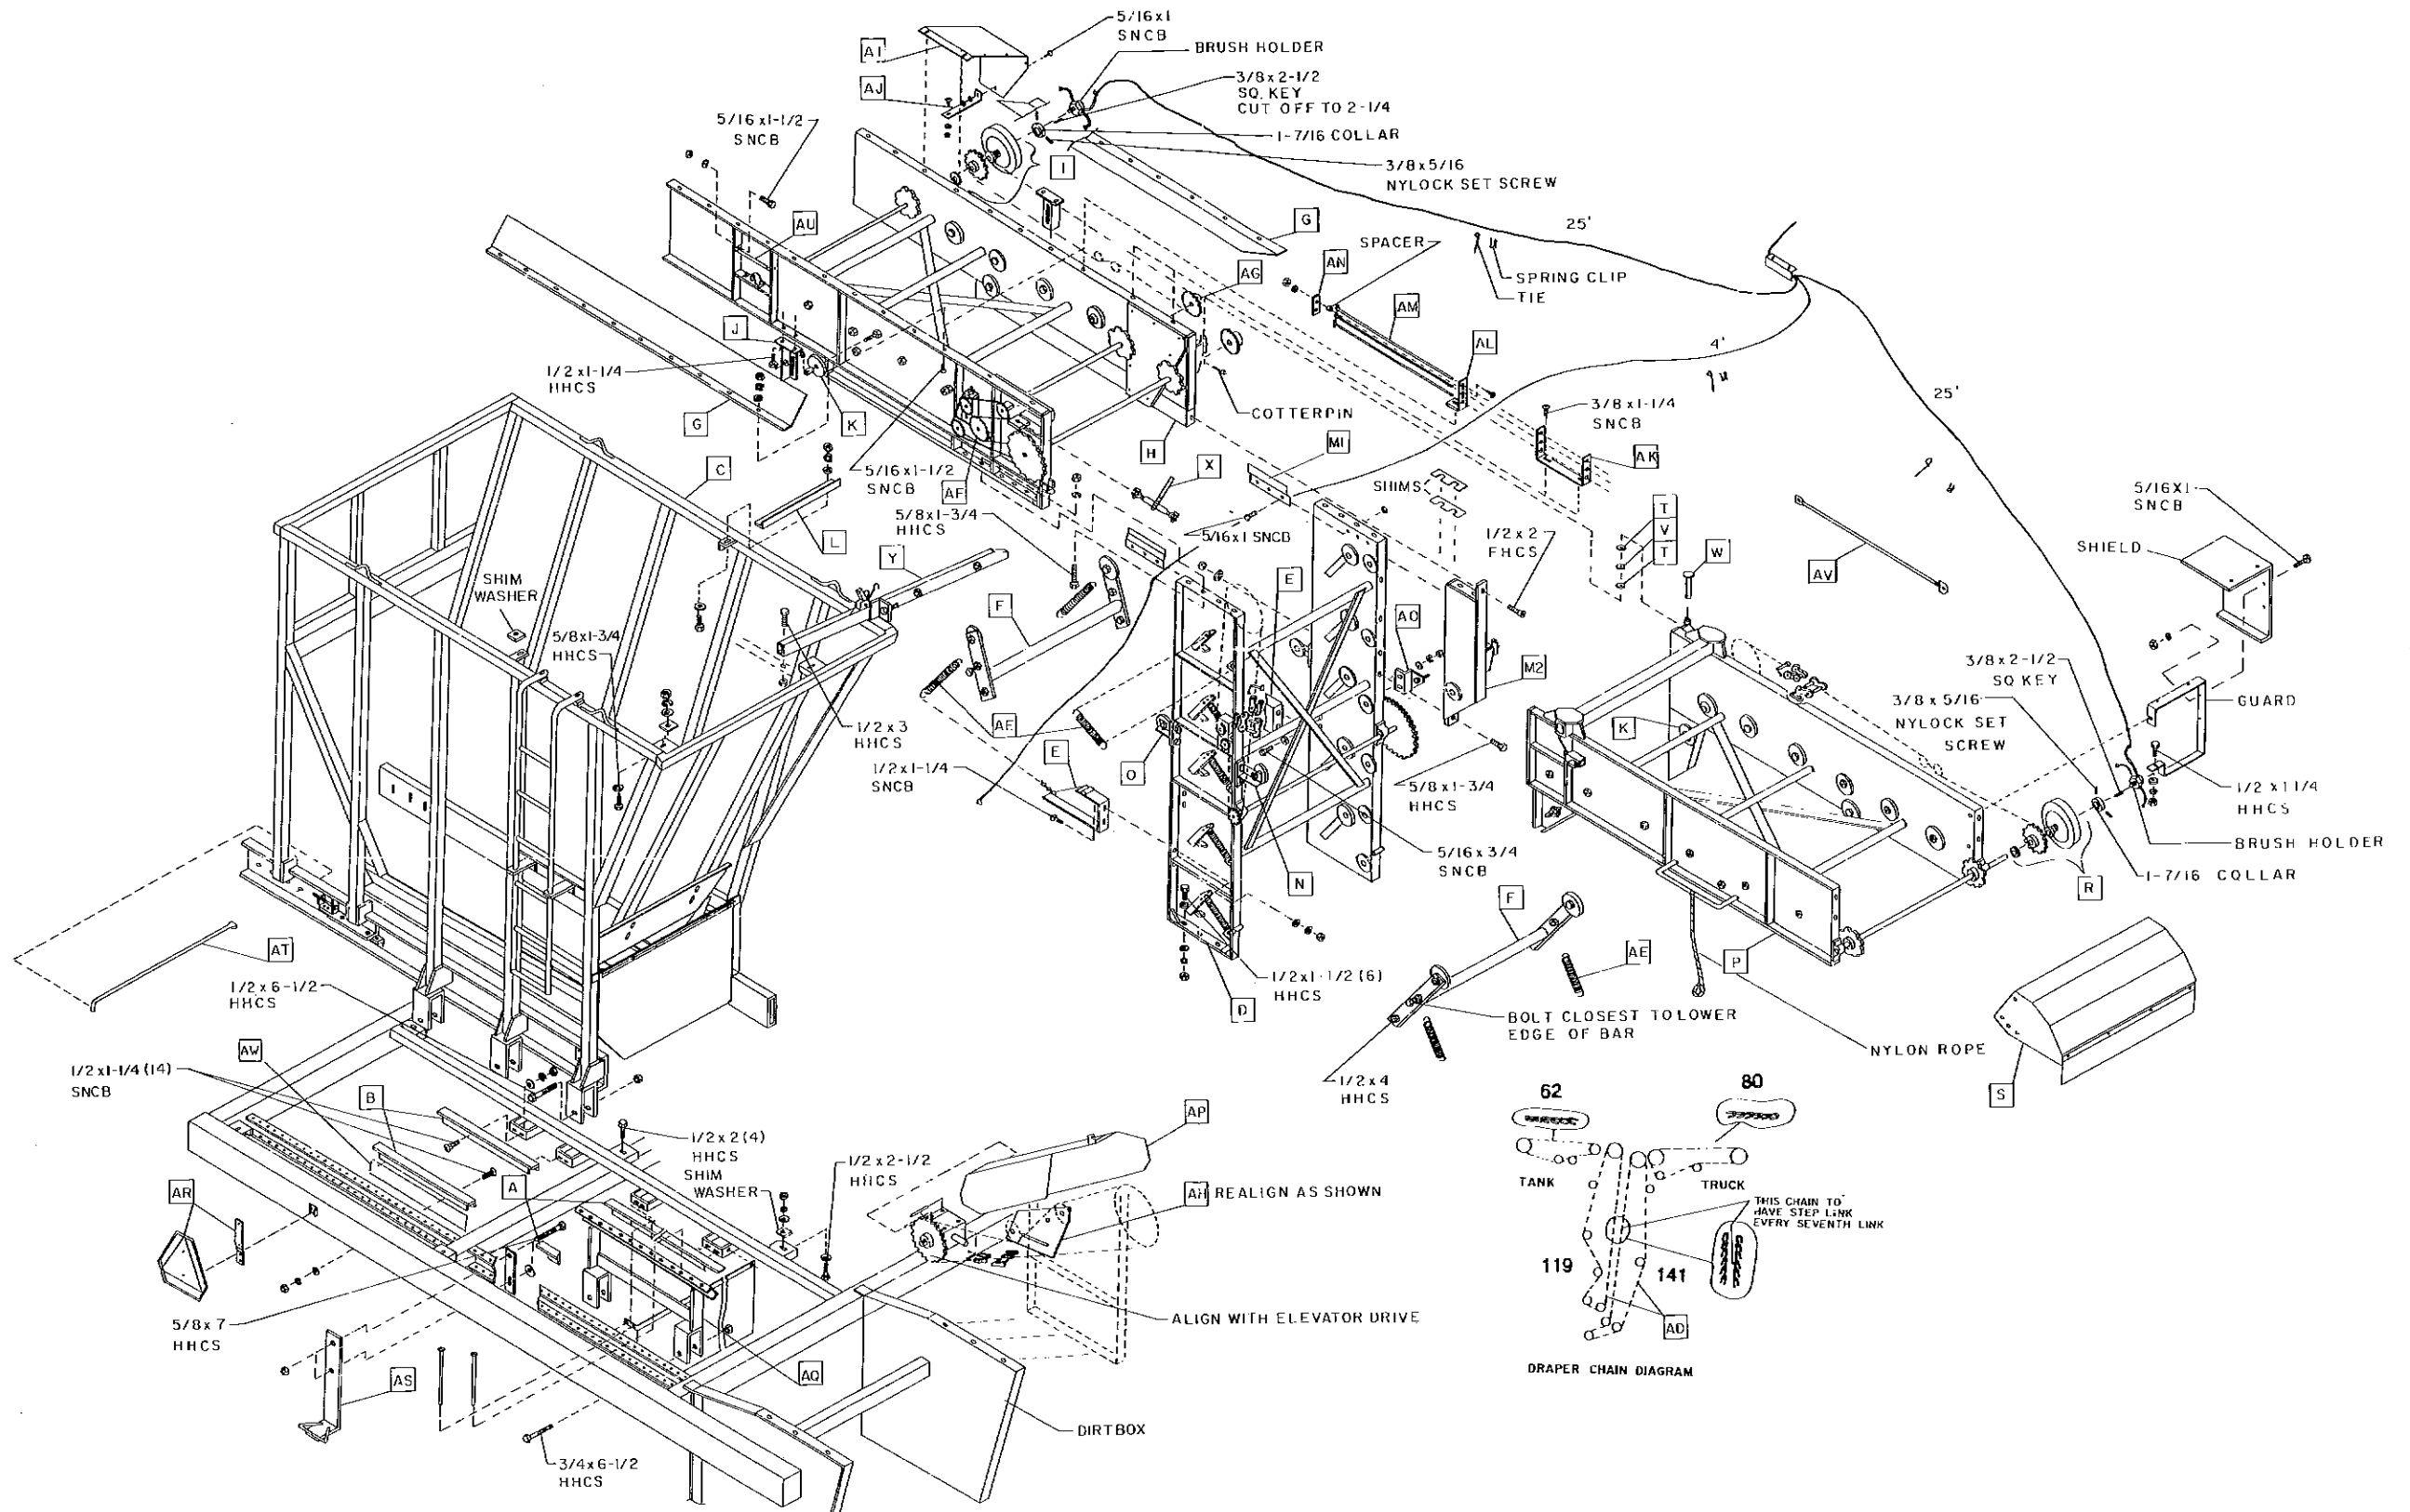

FIGURE 38 - BEET HARVESTER ASSEMBLY
See figure 38, page 31A. Assemble hydraulic motor (A) to mounting plate (B) with four (4) 3/8" x 1" hex bolts and spring tooth washers. Install #60-12T sprocket (C) flush with end of hydraulic motor shaft. Install assembly to tank mounting plate. Align #60-48T sprocket and hub (C) with sprocket on hydraulic motor. Install #60 roller chain, 159100 (69P, 51.75" long) and idler sprocket. Align sprockets. Attach hydraulic unions and tees to valve assembly (E). Install valve assembly to tank (Port "A" to top) with four (4) 3/8" x 1" carriage bolts, lock washers and nuts. Assemble two (2) 24" hydraulic hoses (F) to hydraulic motor and valve assembly. Hoses attach "A"
See figure 38, page 31A. Lift holding tank (C) into position onto main frame of Beet Harvester. Align holes and use square washers so that tank is solid to frame. Install at least two 1/2" x 2" bolts. **DO NOT TIGHTEN AT THIS TIME.**
See Figure 38, page 31A. Lift vertical elevator assembly (D) onto dirt box of machine. Secure with 1/2" x 1-1/2" hex bolts. Make sure inside surfaces of dirt box and vertical elevator are flush.
See figure 38, page 31A. Remove baffles (G) from tank elevator (H), turn so long lip projects up as shown. Do not tighten bolts as shown for shield and grate bracket.
Install 10" diameter electric clutch (I) with #60-30T sprocket on shaft at left end of elevator. Use washers to set the distance between the clutch armature and the outer shell to 1/32" to 3/32". Align 30T sprocket with idler sprockets. Secure magnet onto shaft with lock collar and two (2) 3/8" x 5/16" allen head set screws with nylon lock. Attach brush holder to end of shaft, see figure 38. Install shields (AJ & AI).
See figure 38, page 31A. Install 10" diameter clutch (R) on end shaft, as described under tank elevator assembly. Install roller assembly (K) in lower holes. Install straight link draper chain (80 links) in truck elevator. Route as shown.
See figure 38, page 31A. Install elevator draper chains (AD) as shown (inner chain has 119 straight links).
See figure 38, page 31A. Install 60B20T, 1-7/16" bore sprocket (AF) to the rear on upper center elevator shaft.